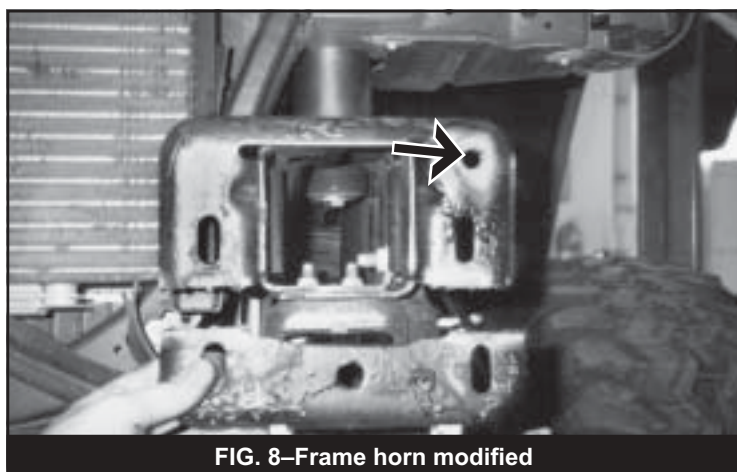

FIG. 8—Frame horn modified
39. The frame horn must be trimmed to provide clearance for the lifted bumper. Cut off the bottom of the frame bumper brackets (Fig. 8). Use the lower edge of the bracket opening as a guide.
41. Remove the bracket from the frame and drill a 1/2" hole in the frame at the mark (Fig. 8).